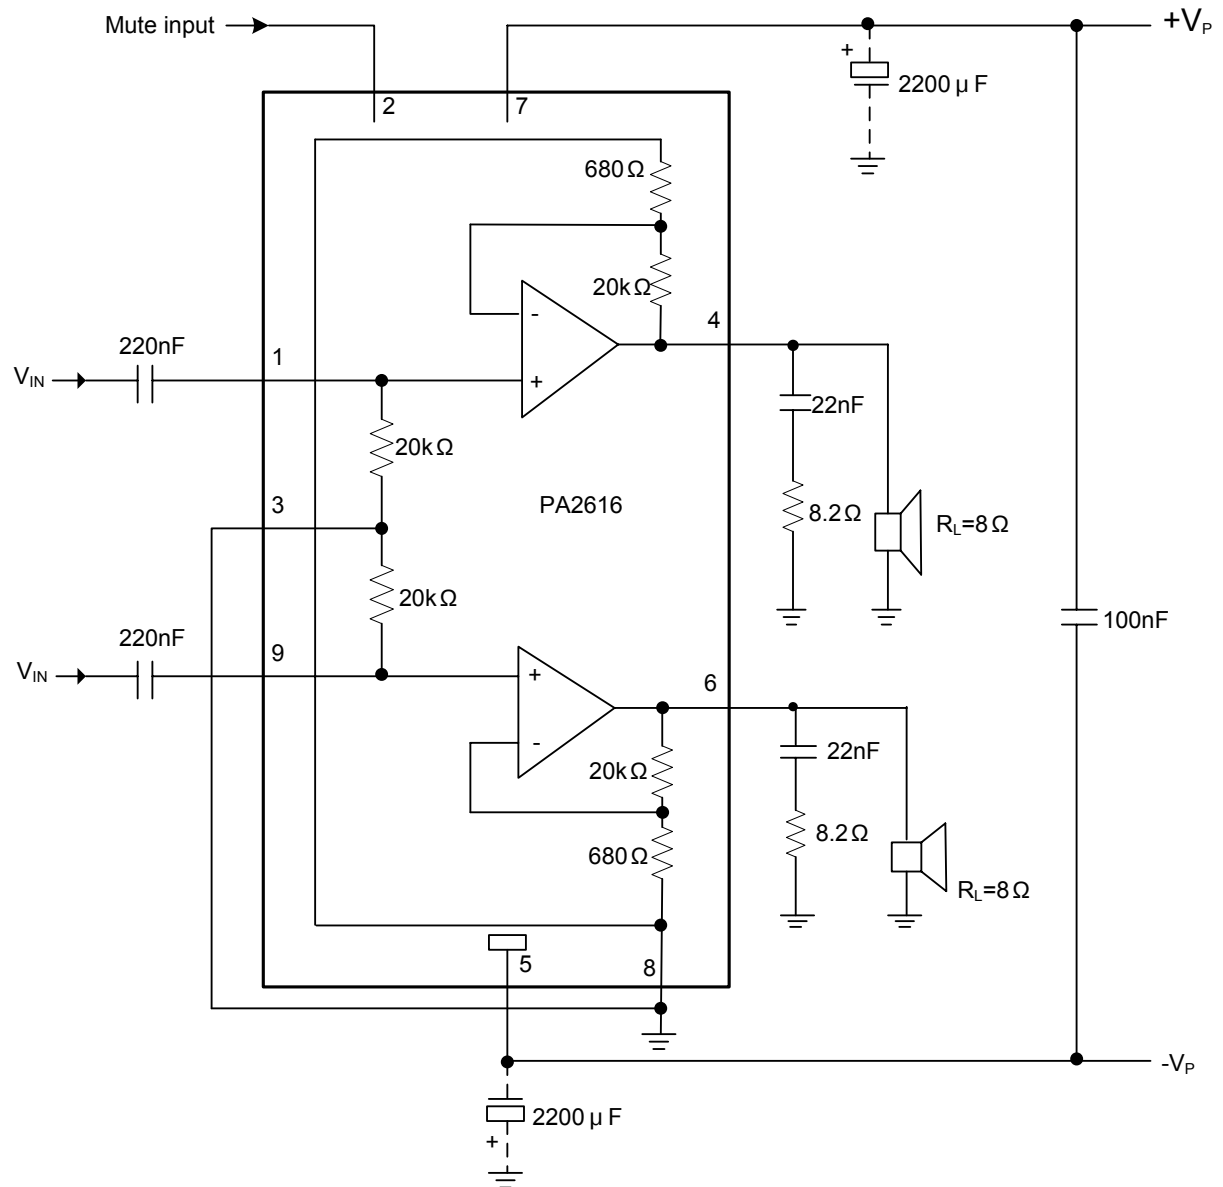

Fig. 1 Test and Application Circuit with Symmetrical Power Supply
Note: 1.  $V_P = \pm 16\text{ V}$ ;  $R_L = 8\text{ }\Omega$ ;  $T_a = 25\text{ }^\circ\text{C}$ ;  $f = 1\text{ kHz}$ ; symmetrical power supply  $I_{MUTE} < 30\text{ }\mu\text{A}$ . See Fig. 1
5.  $\pm V_P = 4\text{ V}$ ;  $R_L = 8\text{ }\Omega$ ;  $T_a = 25\text{ }^\circ\text{C}$ ;  $f = 1\text{ kHz}$ ; symmetrical power supply. See Fig.1